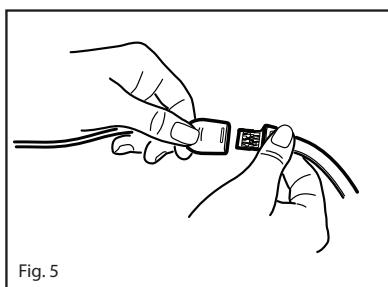

Fig. 5
1. Refer to **Fig. 5**. Orient the sensor's connector tab so that the side with the "shiny" contacts facing up. Orient the patient cable with the color bar and finger grips facing up.